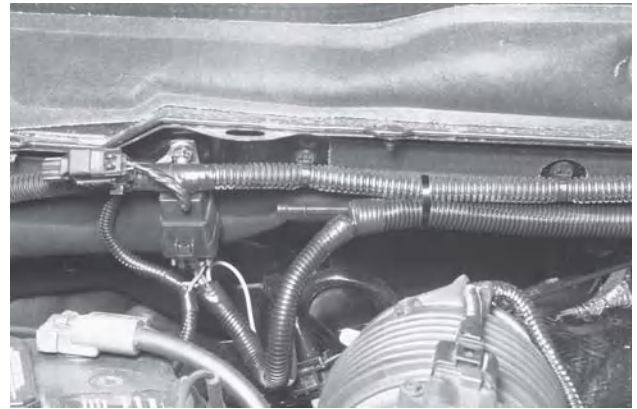

Fig. 13b
- g. If needed, reroute the brake harness under the vehicle harness running along the top of the dash panel. It is recommended that the driver's end of the harness be routed behind the two 24-pin connectors and the master brake cylinder. (see figure 13b)